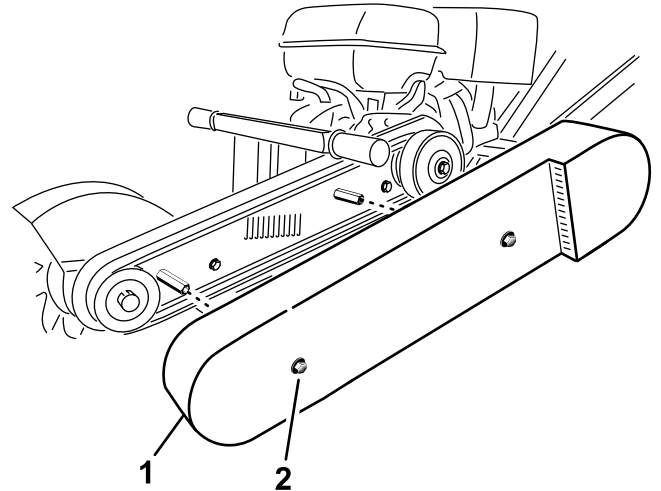

Figure 24
3. Loosen the 2 bolts securing the belt guard to machine until you can remove the belt guard (Figure 24).
2. Bolt and washer (2)
4. Remove the belt guard (Figure 24).
10. Install the belt guard and tighten the bolts (Figure 24).